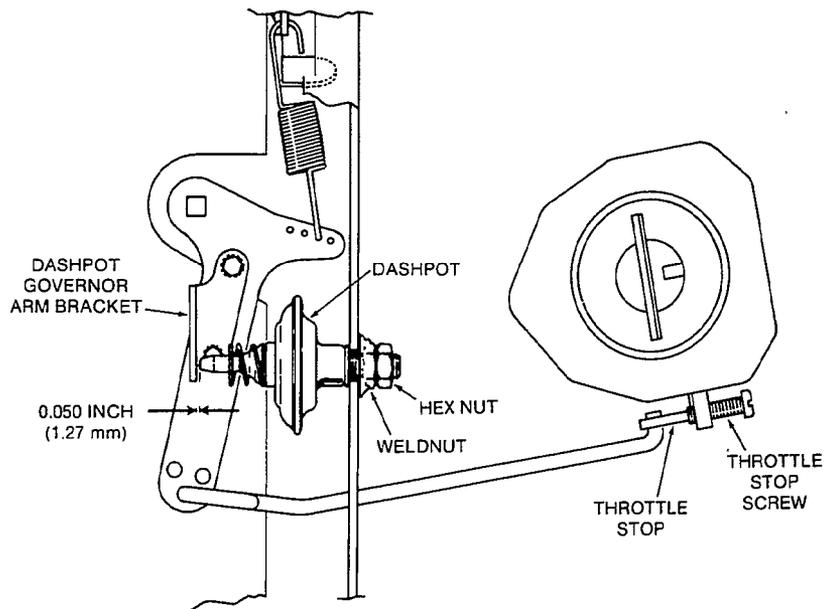

FIGURE 7. DASHPOT CLEARANCE
2. Holding throttle against throttle stop screw, adjust dashpot to obtain 0.050 inch (1.27 mm) clearance (Figure 7.)